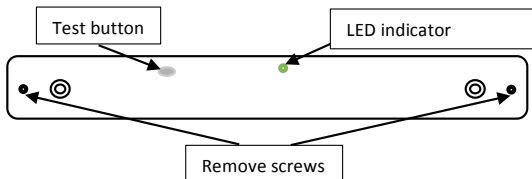

Fig. 1
- Remove the two screws in the underside of the top cover, and remove the cover (see Fig. 1)